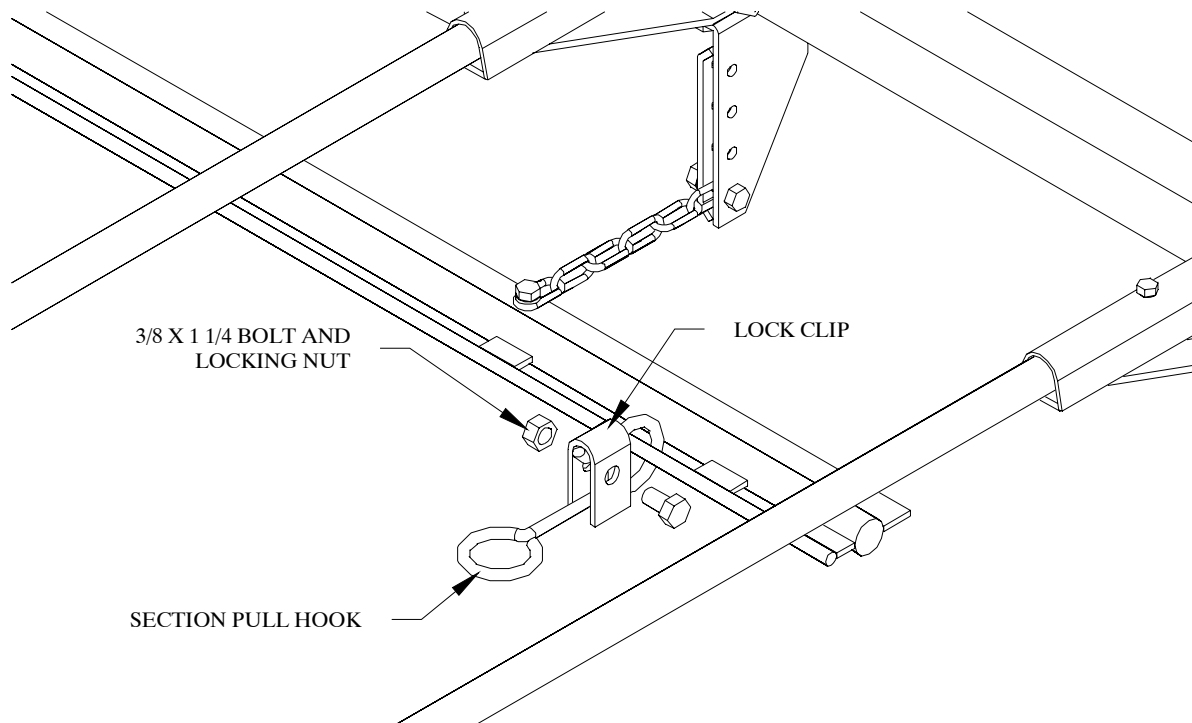

Figure 16
1. Hook the hooks on the front of the harrow sections through the pull tube as shown on the next page in figure 16.